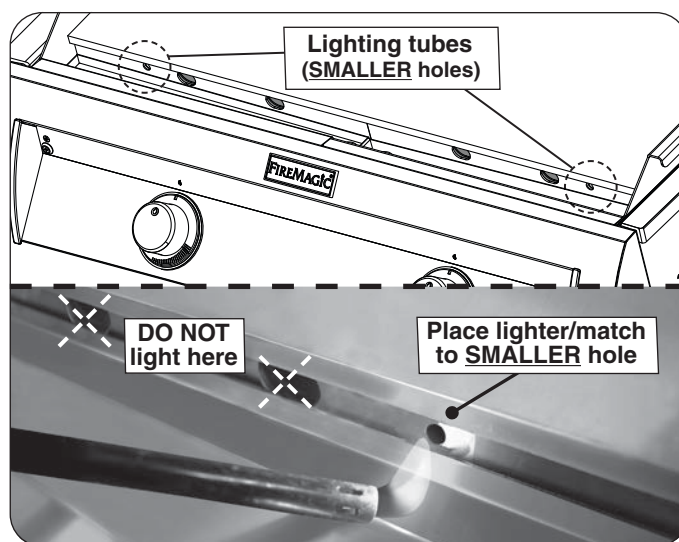

Fig. 27-3 - Manual lighting
**CAUTION:** Always wait five (5) minutes for gas to clear after any unsuccessful lighting attempt.
2. Hold a burning long-barrel butane lighter or burning long-stem match up to the opening of the lighting tube (**SMALLER hole**) **for 5 seconds**. Then depress the appropriate control knob and while pressing turn it counterclockwise to the **HI LIGHT** position. Remove the lighter or match when the burner lights, and release the control knob. See Fig. 27-3.
4. If the burner does not light within five (5) seconds of turning the control knob, **immediately depress the knob and turn the valve to OFF**. **WAIT FIVE (5) MINUTES** before repeating steps 2 through 4 of the MANUAL LIGHTING instructions.